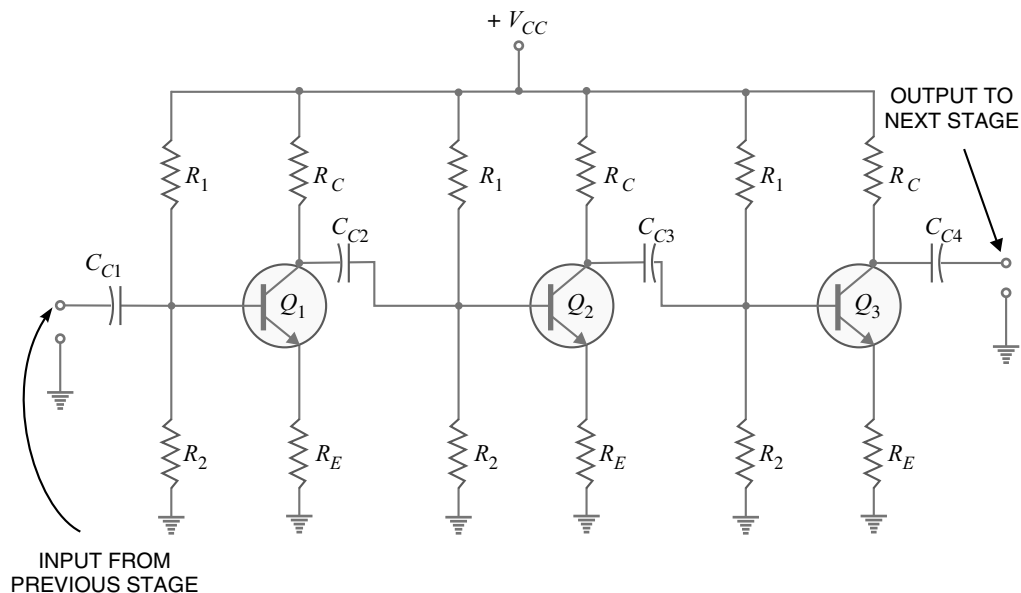

Fig. 9.10
**1. As coupling capacitors.** In most applications, you will not see a single transistor amplifier. Rather we use a multistage amplifier i.e. a number of transistor amplifiers are connected in series or cascaded. The capacitors are commonly used to connect one amplifier stage to another. When a capacitor is used for this purpose, it is called a *coupling capacitor*. Fig. 9.10 shows the coupling capacitors ( $C_{C1}$ ,  $C_{C2}$ ,  $C_{C3}$  and  $C_{C4}$ ) in a multistage amplifier. A coupling capacitor performs the following two functions :